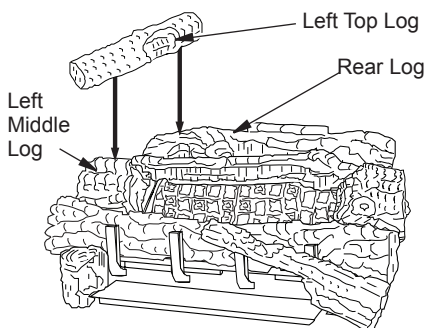

Figure 32 - Installing Left Top Log
9. Place the left top log onto the rear log and the left middle log. Make sure to place the projection on the bottom of the left top log into the recessed areas on the rear and left middle logs (see Figure 32).